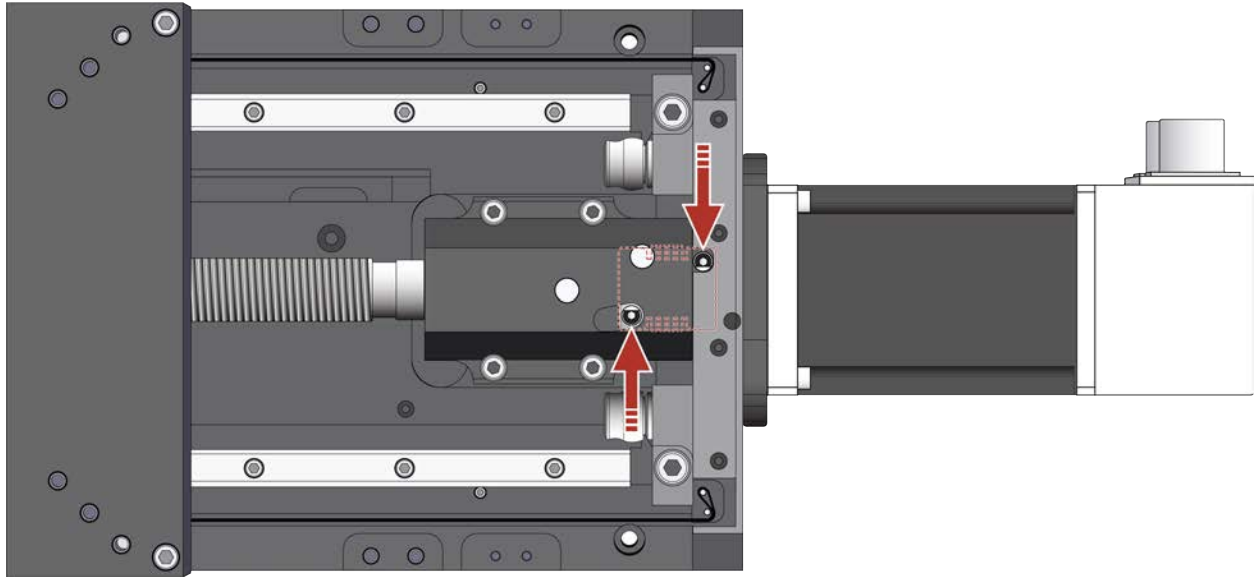

Figure 4-7: Tighten the Shaft Coupling to the Drive Screw
7. Tighten the Shaft Coupling to the drive screw (Figure 4-7). Refer to Table 4-1 for the correct hardware and torque requirements.